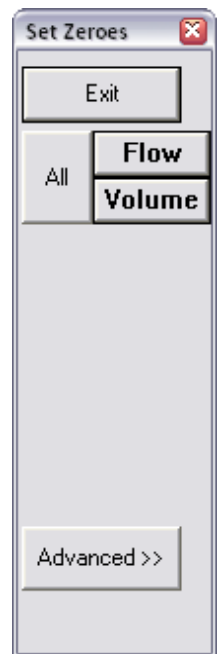

Figure 93: Set Zeroes Window
- Select **SET ZEROES!** from the Menu Bar in the Goby Software window (Figure 25). The Set Zeroes window will launch (Figure 93).